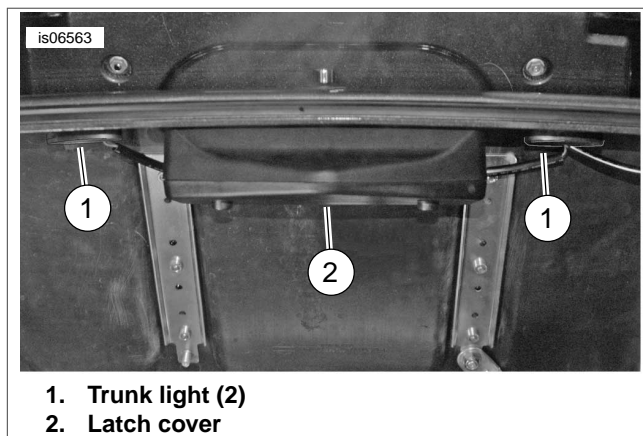

Figure 2. Trunk Light Mounting Locations (2011- Later Shown, 2009-2010 Similar)
- 2011- Later Models:** See Figure 2. Position the lights to the inside of the trunk on either side of the trunk latch assembly.